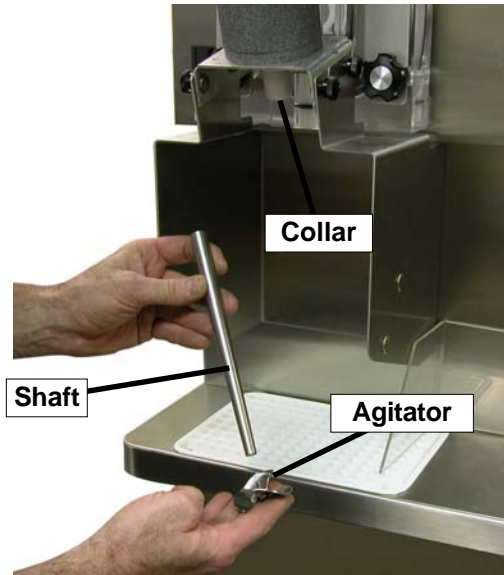

Figure 3-3 SU444 Blender Agitator Assembly
3. Remove the blender agitator by holding the blender shaft and turning the agitator counterclockwise. Remove the blender shaft by holding the blender collar and turning the shaft counterclockwise. (Figure 3-3)